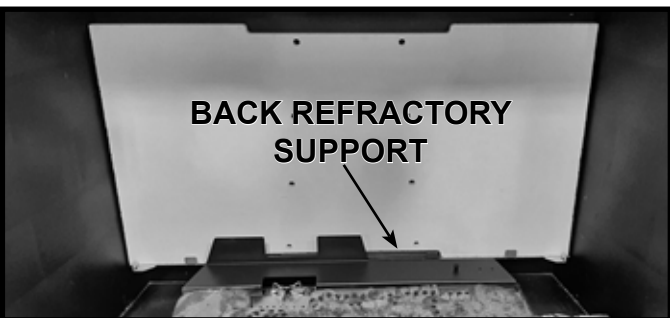

Figure 5 Back Insulation Board Installed
- Install back insulation board by positioning it at the rear of the firebox and behind the refractory support tabs as shown in Figure 5.